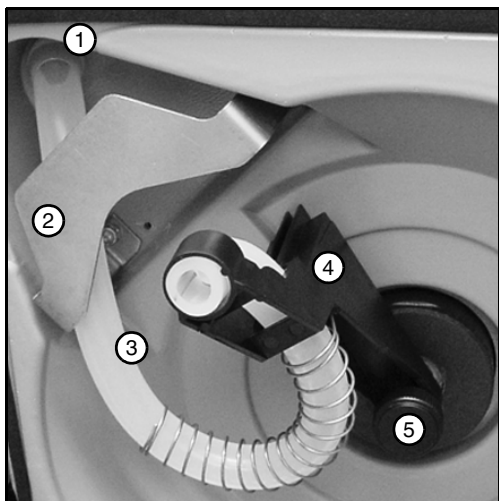

Figure 1-1 Attaching the discharge tube
1. Attach the distributor arm to the distributor shaft underneath the Avalanche controller. Note that the metal shaft and arm are keyed to ensure correct alignment. Secure the distributor arm with the knurled nut (Figure 1-1).
Note that the metal shaft and arm are keyed to ensure correct alignment. Secure the distributor arm with the knurled nut. See Figure 1-1.
1. Attach the discharge tube to the bulkhead fitting. Route the tube over the stainless-steel tube holder (Figure 1-1).